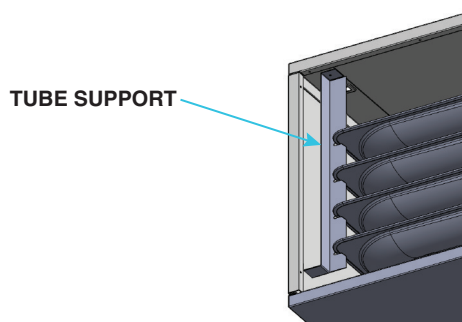

Figure 4. Heat Exchanger Tube Support
2. Remove and discard fastening hardware that secures heat exchanger support (see Figure 4) and remove heat exchanger support through discharge opening and discard support.